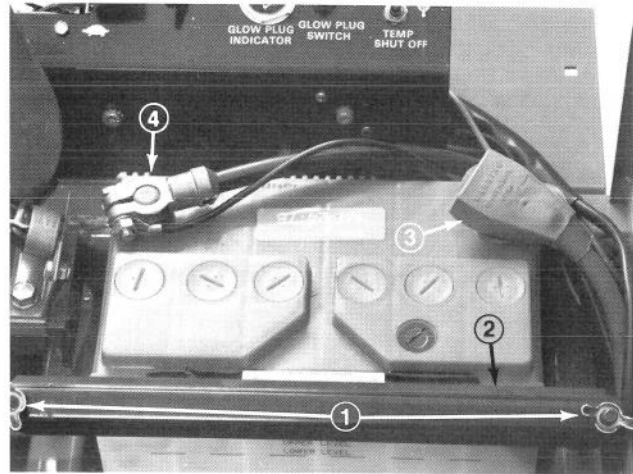

Figure 6
2. Remove two wing nuts and hold down strap that secures battery and seat switch in place (Fig. 6). Lift battery out of chassis. Keep wing